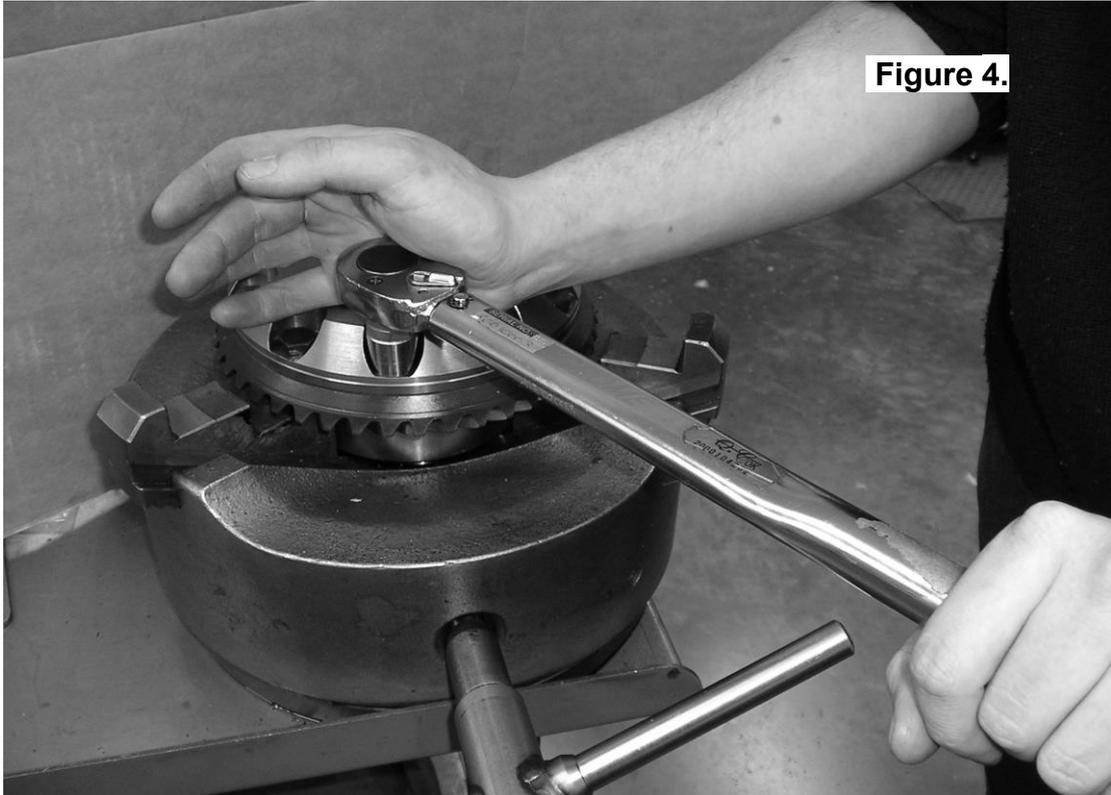

Figure 4.
- Tighten the ring gear bolts in a star pattern with a torque wrench (Fig.4.) set to your vehicle manufacturer's specified torque.